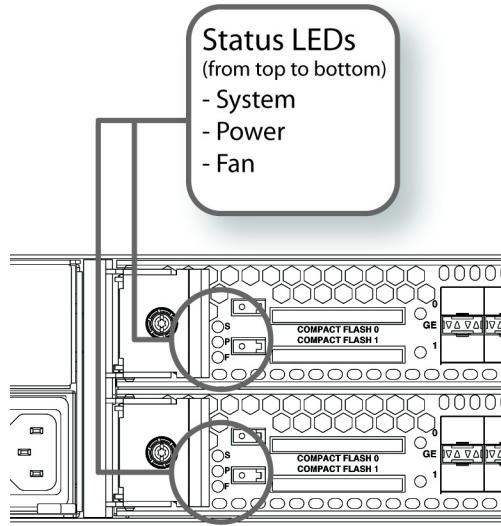

Figure 6-5 System, Power, and Fan Status LEDs on the NAS Blade
Step 2: If any of the status LEDs are not green, check the LEDs on the rear of the NAS Blades. Figure 6-5 shows the NAS blade status LEDs.